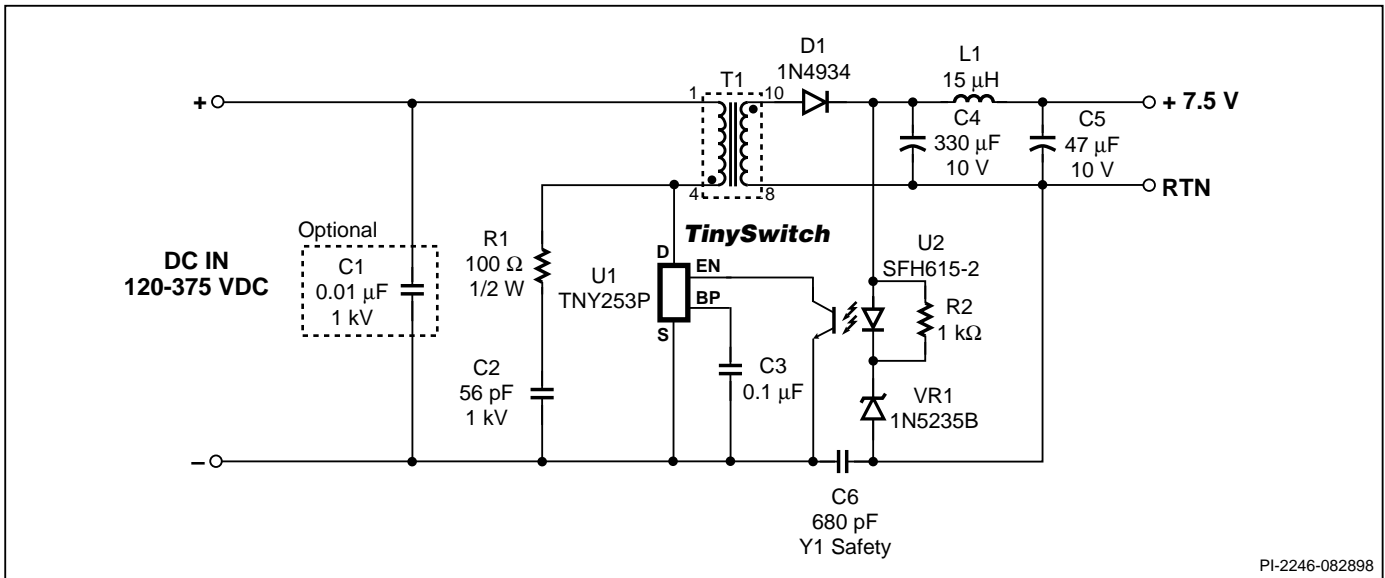

Figure 9. 1.3 W TV Stand-by Circuit using TNY253.
*TinySwitch* is an ideal solution for low cost, high efficiency standby power supplies used in consumer electronic products such as TVs. Figure9 shows a 7.5 V, 1.3 W flyback circuit that uses TNY253 for implementing a TV standby supply. The circuit operates from the DC high voltage already available from the main power supply. This input voltage can range from 120 to 375VDC depending on the input AC voltage range that the TV is rated for. Capacitor C1 filters the high voltage DC supply, and is necessary only if there is a long trace length from the source of the DC supply to the inputs of the TV standby circuit. The high voltage DC bus is applied to the series combination of the primary winding of T1 and the integrated high voltage MOSFET inside the TNY253. The low operating frequency of the TNY253 (44kHz), allows a low cost snubber circuit C2 and R1 to be used in place of a primary clamp circuit. In addition to limiting the DRAIN turn off voltage spike to a safe value, the RC snubber also reduces radiated video noise by